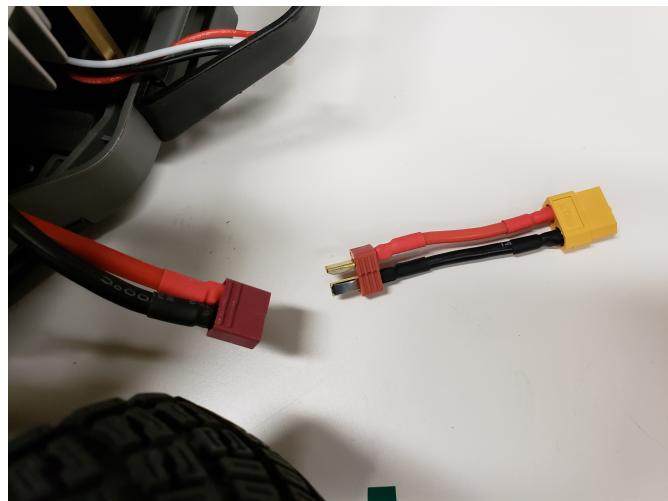

Figure 9
4. Disconnect the "Deans to XT60" cable, as shown in Fig. 9.